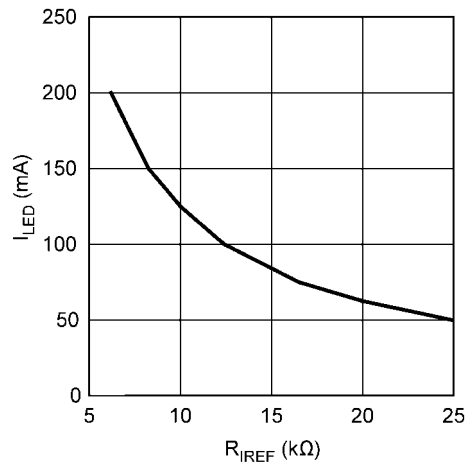

FIGURE 4.  $I_{LED}$  and  $R_{IREF}$
The current of an LED string ( $I_{LED}$ ) is programmable from 50 mA to 200 mA by an external resistor  $R_{IREF}$  connecting from the IREF pin to the ground. The relationship between  $I_{LED}$  and  $R_{IREF}$  is shown in Figure 4. The two channels of the current regulator can work in parallel for only one LED string by connecting the IOUT1 and IOUT2 pins together to provide an LED current of up to 400 mA. In this case, the DIM1 and DIM2 pins should also be connected together.
**$R_{RT}$  and  $R_{IREF}$ :** The resistors  $R_{RT}$  and  $R_{IREF}$  set the switching frequency  $f_{SW}$  of the boost converter and the LED current  $I_{LED}$  respectively. From Figure 1, if  $f_{SW}$  is 300 kHz,  $R_{RT}$  is selected to be 499 k $\Omega$ . From Figure 4, if  $I_{LED}$  is 200 mA,  $R_{IREF}$  is selected to be 6.19 k $\Omega$ .